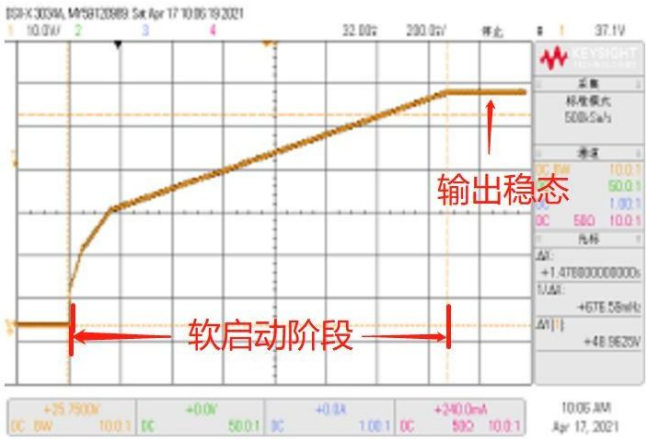

Figure 6-1
1) The module must not be loaded directly during soft start. The load can only be applied after the module output voltage has been established (steady-state output). This can be determined via the module status flag bits (see Table 6-1 and Figure 6-1).